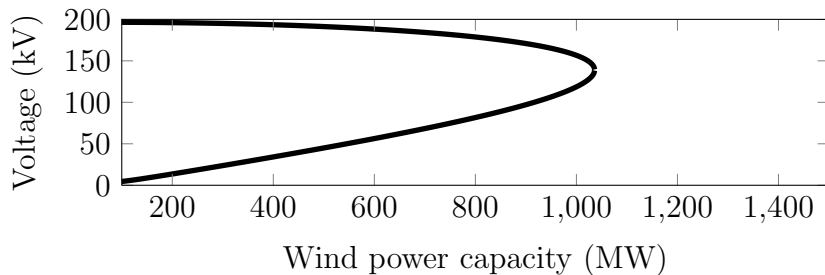

Figure 1: PV curve
The plus sign corresponds to a stable operation point, while the minus sign corresponds to an instable operation point. In reality, it is therefore always the plus sign that is used to calculate the voltage from the equation above. If the two solutions are plotted on the same curve, we would get a PV curve, also called nose curve, see Figure 1.
For all the points on this part of the curve, Matlab will issue a warning such as the one above. These points correspond to imaginary values of U_k , i.e. when Equation (1) does not have any real solution. These points do not correspond to any physical possible situation for the electric system. This means that the electric system can never reach a point on this part of the curve. What would happen in reality is that as soon as we reach the "nose" of the curve in Figure 1, the system becomes unstable, and the voltages collapse along the lower part of the curve.